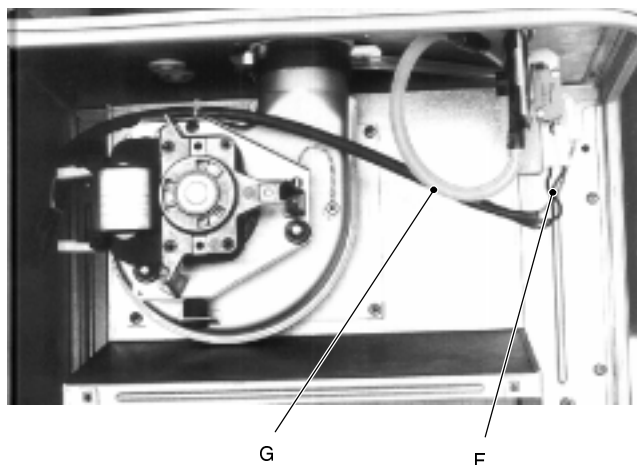
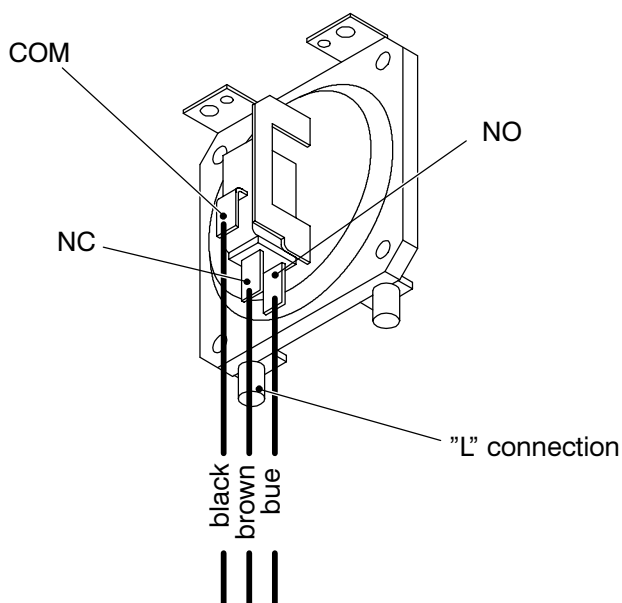

fig. 81
fig. 82
- 2 Disconnect the connectors *F* (fig. 81);
- 3 Disconnect pipe *G* (fig. 81) which connects the air pressure switch to the air pressure test point.
Warning: connect the pipe *G* (fig. 81) to the pressure connection of the air pressure switch marked "L" (fig. 82).
Connect the electrical connectors to the air pressure switch as shown in fig. 82